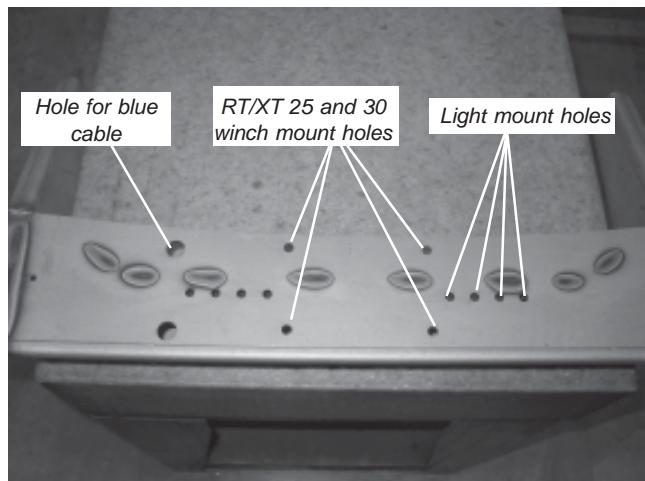
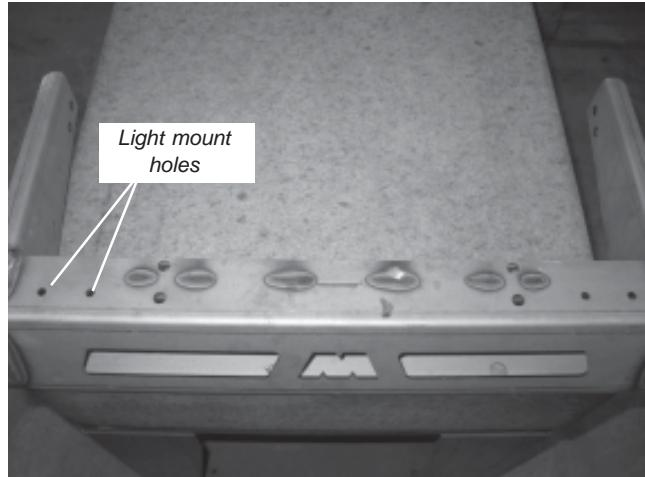

Figure 8
Figure 9
1. WARN winch mounting holes are shown in Figure 8. Pull yellow cable through front hole and blue cable through rear hole after sliding conduit over top both cables. 1/4" ID conduit is to be used for RT/XT25 winches; 3/8" ID conduit is to be used for RT/XT30 winches.
2. If no winch is mounted on bumper the set of holes, as shown in Figure 8, can be used to mount a set of lights on top of bumper. If winch is used, there are holes on bottom of bumper, as shown in Figure 9, that can be used to mount a set of lights.